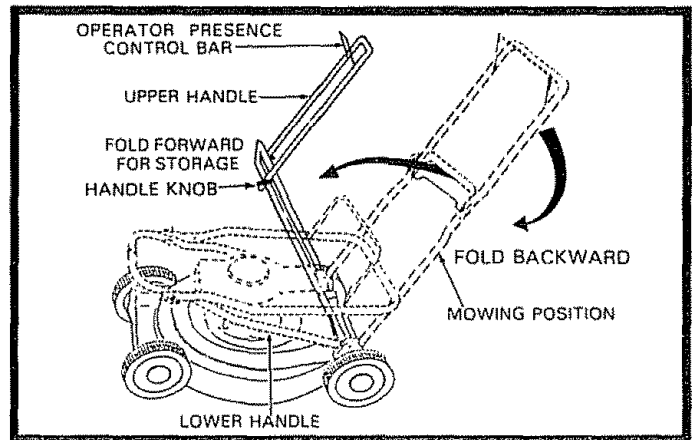

FIG. 15
- You can fold your Lawn Mower Handle for storage as shown in Fig. 15.
**IMPORTANT:** WHEN FOLDING THE HANDLE FOR STORAGE OR TRANSPORTATION, BE SURE TO FOLD THE HANDLE AS SHOWN IN FIG. 15. IF YOU FOLD THE UPPER HANDLE SECTION THE WRONG WAY, YOU MAY DAMAGE THE CONTROL CABLES.